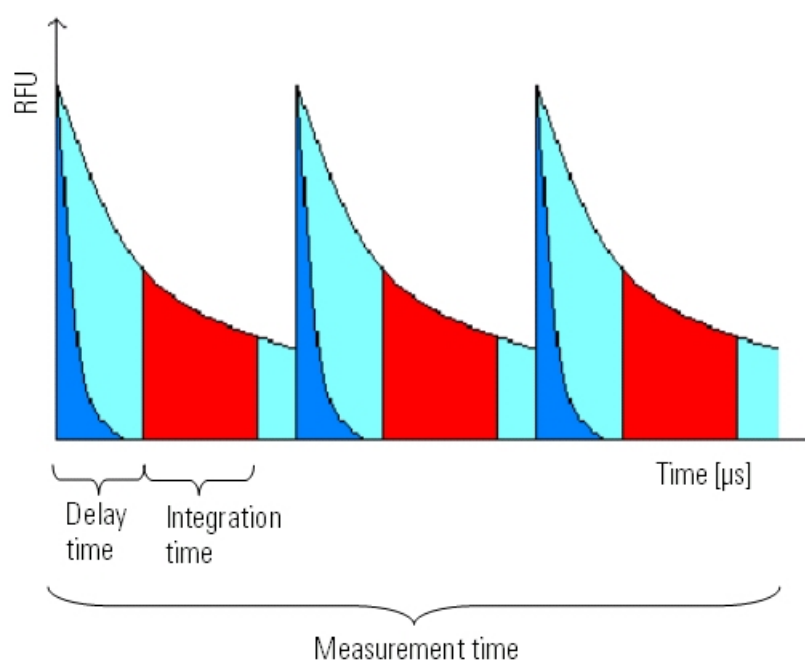

Figure 7-1. TRF principle
- **TRF delay time [µs]** - Define the waiting period (TRF delay) between the excitation flash and the beginning of the emission light measurement (see Figure 7-1).
- **TRF integration time [μs]** - Define the length of the measurement window, that is, the time the emitted signal is collected for each measurement cycle (see Figure 7-1).
- **TRF delay time [μs]** - Define the waiting period (TRF delay) between the excitation flash and the beginning of the emission light measurement (see Figure 7-1).